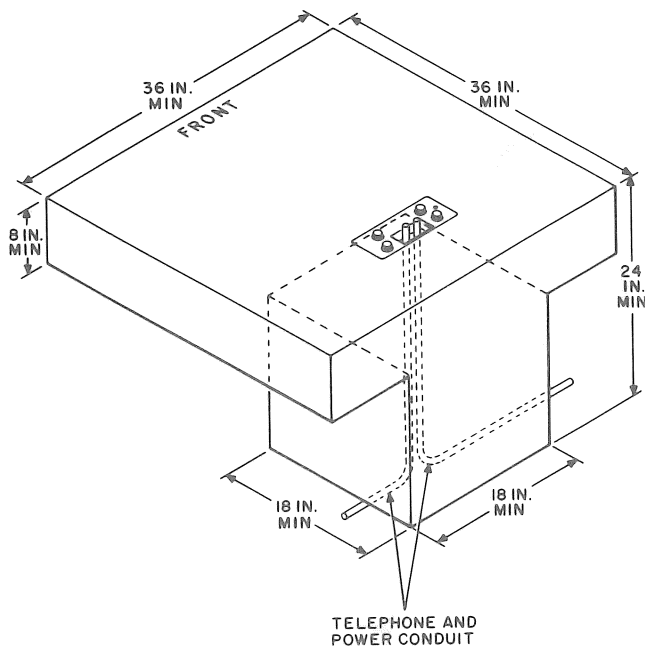

Fig. 31—Minimum Thickness of Concrete for a KS-20842, List 52 Buried Base (Without List 70 Mast)
(1) Prepare a form which is a minimum of 36 inches square with a minimum inside depth of 36 inches when a KS-20842, List 70 mast is used. The minimum depth for a single housing without a mast is 8 inches with an 18-inch minimum square by 24-inch minimum deep area for the buried base (Fig. 31).